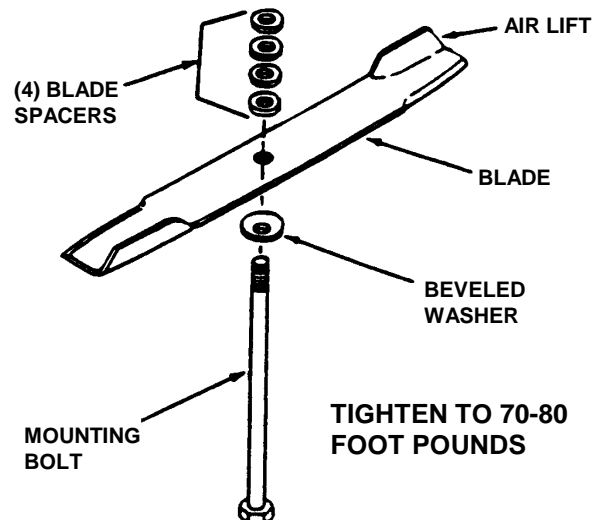

FIGURE 4.2
5. Check torque of blade mounting bolts. As necessary, torque to 70 to 80 ft. lbs. See Figure 4.2.